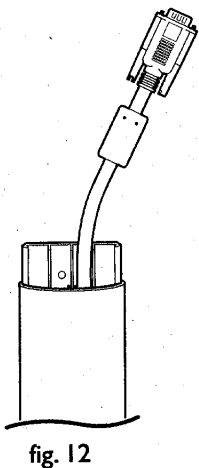

fig. 12
- 6 Line up the Display Video Cable in the grooves of the Back Plate. (fig. 12)